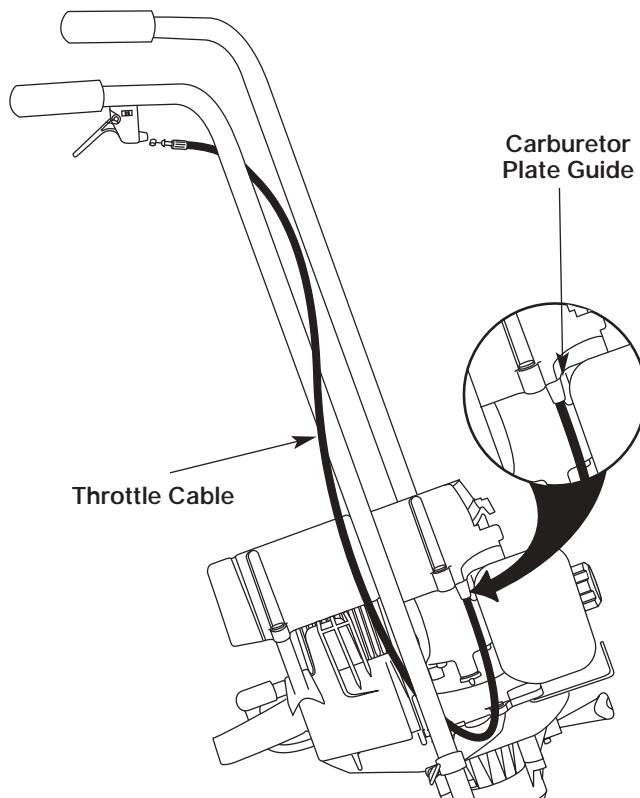

Figure 9
1. Wrap the throttle wire once around the handlebar. See Figure 9.
**NOTE:** Ensure the throttle cable fits properly into the guide at the carburetor plate on the engine. If it does not, the throttle will not work properly. See Figure 9.